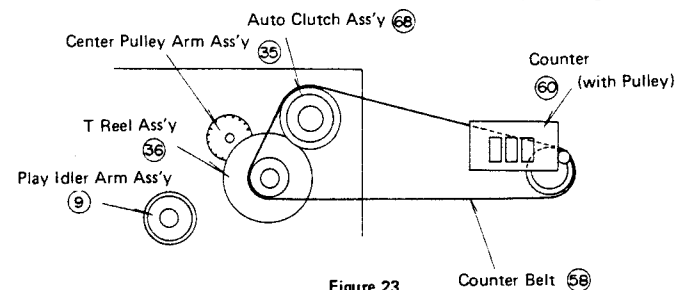

Figure 23
3. Adjust the height adjusting screw so that the upper edge of the tape will touch at the upper tape guide of the erase head. See Figure 23.